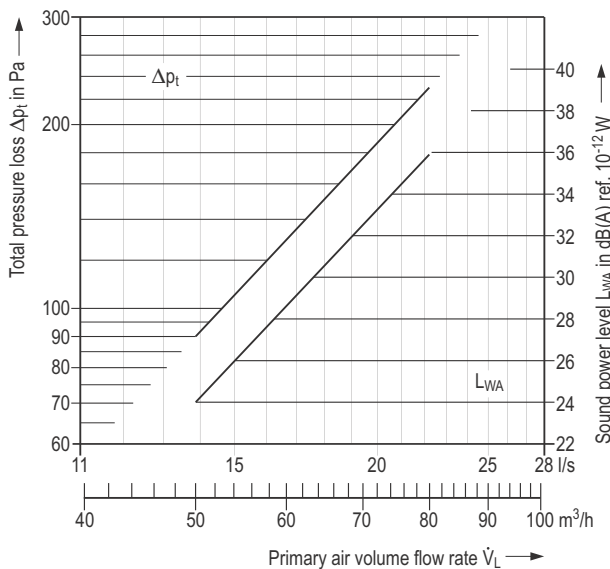

Figure 12: Sound power level and air-side pressure loss
The sound power level and the air-side pressure loss are low and depend only on the primary air volume flow rate. According to **Figure 12**, the A-rated sound power level amounts for 13.9 l/s (50 m³/h) primary air volume flow rate to 24 dB(A) ref. 10⁻¹² W, for 22 l/s (80 m³/h), to 36 dB(A) ref. 10⁻¹² W. The corresponding total pressure equals 90 and 230 Pa resp.
Details: 1) Figure 12 5) Other colours on request